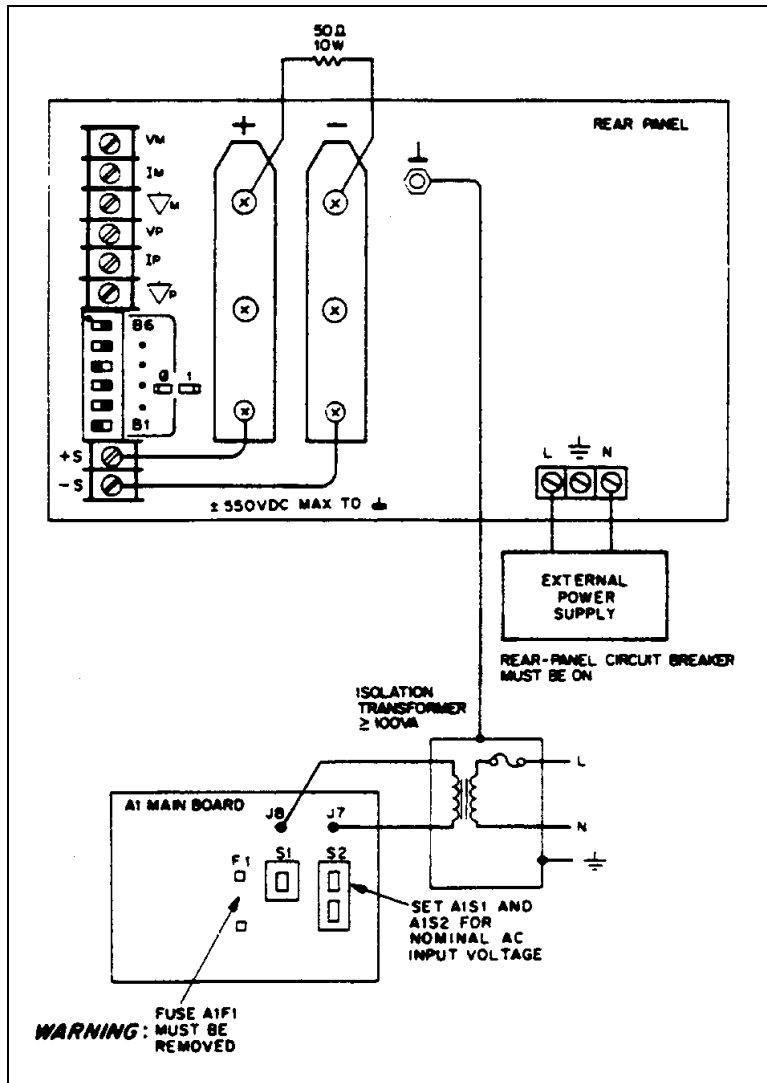
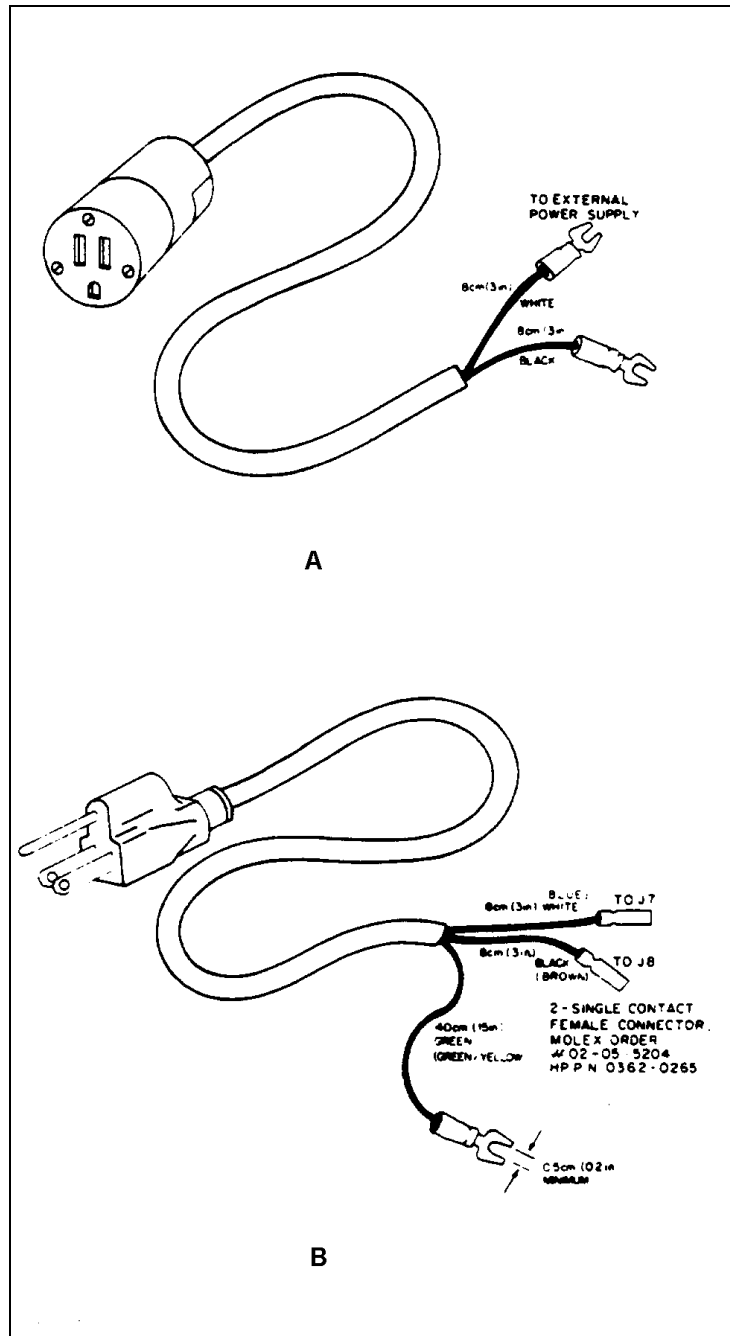

Figure 3-1. Main Troubleshooting Setup
Figure 3-2. Modified Mains Cord Set For Troubleshooting
Figure 3-1 shows the troubleshooting setup for troubleshooting all of the unit except the front panel and initial no output failures (see page 36). The external power supply provides the unit's internal bus voltage. The ac mains cord connects to the unit's A1T3 bias transformer via an isolation transformer, thereby energizing the bias supplies, but it does not connect to the input rectifier and filter because that would create the bus voltage. With the external supply the unit operates as a dc-to-dc converter. The supply biases the A4Q1, A4Q2, A4Q3 and A4Q4 PFETs with a low voltage rather than the 320Vdc bus voltage. This protects the PFETs from failure from excess power dissipation if the power-limit comparator or the off-pulse circuitry are defective. It also reduces the possibility of electrical shock to the troubleshooter.
An isolation transformer provides ac voltage that is not referenced to earth ground, thereby reducing the possibility of accidentally touching two points having high ac potential between them. Failure to use an isolation transformer as shown in Figure 3-1 will cause the ac mains voltage to be connected directly to many components and circuits within the power supply, including the FET heatsinks, as well as to the terminals of the external dc power supply. Failure to use an isolation transformer is a definite personal-injury hazard.
The troubleshooting setup of Figure 3-1 connects high ac voltage to relay K1, fan B1, fuseholder A1F1, and other components and circuits along the front of the A 1 main board.
As a convenience in implementing the troubleshooting setup, prepare cord sets as shown in Figure 3-2. This facilitates connecting the unit's input power rail to the external supply and connecting the bias transformer to the isolation transformer.
- d. Place the front panel power-on switch in the off position. Remove the ac input cover from the rear panel and connect the "L" and "N" screws on the barrier block to the output of the external DC supply. If a line cord is already connected to these terminals, construct an adapter as shown in Figure 3-2 (a), which allows you to connect the cord to the DC supply. In either case ignore polarity as the unit's rectifying diodes steer the dc power to the correct nodes.
- e. Complete the setup of Figure 3-1 by attaching an ac mains cord to test points J8 (L, black wire) and J7 (N, white wire) and connect the green ground wire to the unit's case ground terminal or a suitably grounded cabinet screw. See Figure 3-2 (b). Plug the mains cord into an isolation transformer.